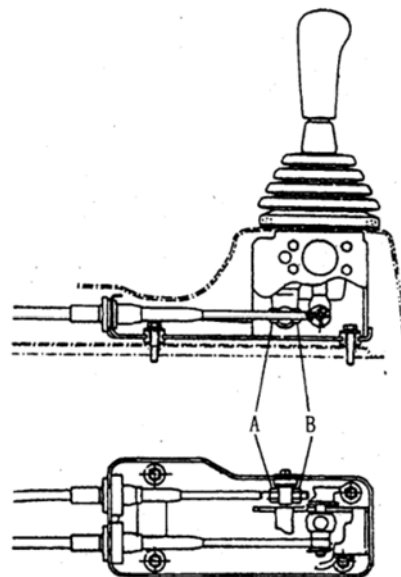

Fig.3.2-6
1) Slightly operate gearlever toward left, making the speed selecting shaft incline from the current neutral position to the second gear side (gear selecting position). If gearlever can be easily and effectively put in the third gear and fourth gear from this point, release speed selecting flexible shaft adjusting bolt "A" indicated in Fig.3.2-6 and tighten bolt "B" until gearlever can be easily and effectively put in the third gear and fourth gear.
2) Slightly operate gearlever toward right, making the speed selecting shaft incline from the current neutral position to the reverse gear side (gear selecting position). If gearlever can be easily and effectively put in the third gear and fourth gear from this point, release speed selecting flexible shaft adjusting bolt "B" indicated in Fig.3.2-6 and tighten bolt "A" until gearlever can be easily and effectively put in the third gear and fourth gear.